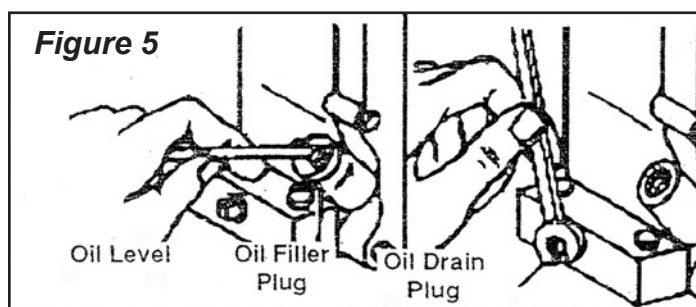

Figure 5
FINAL SETUP (Figure 5)
1. Remove the oil fill plug from the engine. With the unit sitting level, fill the crankcase with oil. See the engine instruction manual for type and further directions (Figure 5).